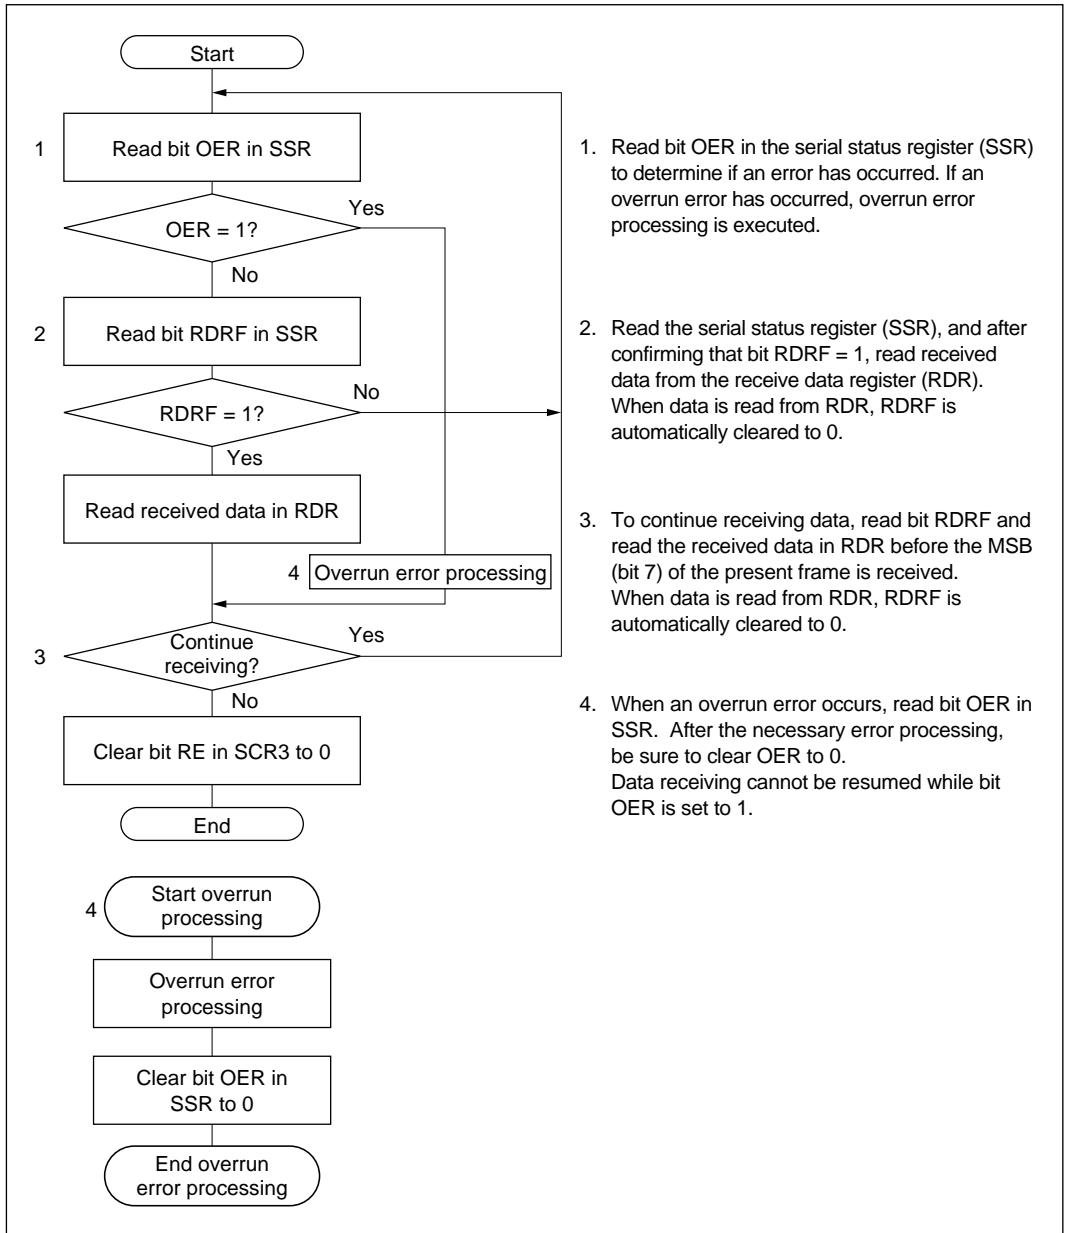

Figure 10-4-13 Typical Data Receiving Flow Chart in Synchronous Mode
Figure 10-4-13 shows a typical flow chart for receiving data. After SCI3 initialization, follow the procedure below.
4. When an overrun error occurs, read bit OER in SSR. After the necessary error processing, be sure to clear OER to 0. Data transmission and reception cannot take place while bit OER is set to 1. See figure 10-4-13 for overrun error processing.